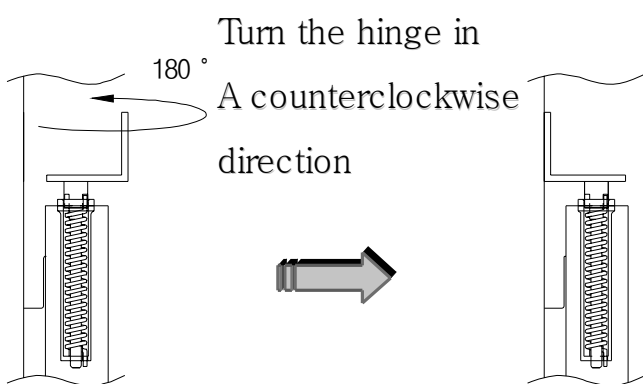

Figure 4.
- 4) Install the hinge (#7) as indicated in figure 4.